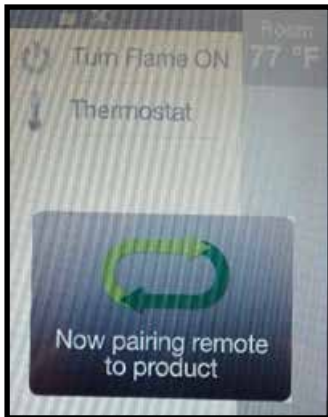

Figure 5 Pairing Remote
**NOTICE!** During re-pairing, some versions of the IFT2-RC450 may display “Now pairing remote to product” before being able to reach the diagnostic menu on remote. This message will impair the ability to access the pairing ICON button. See Figure 5.